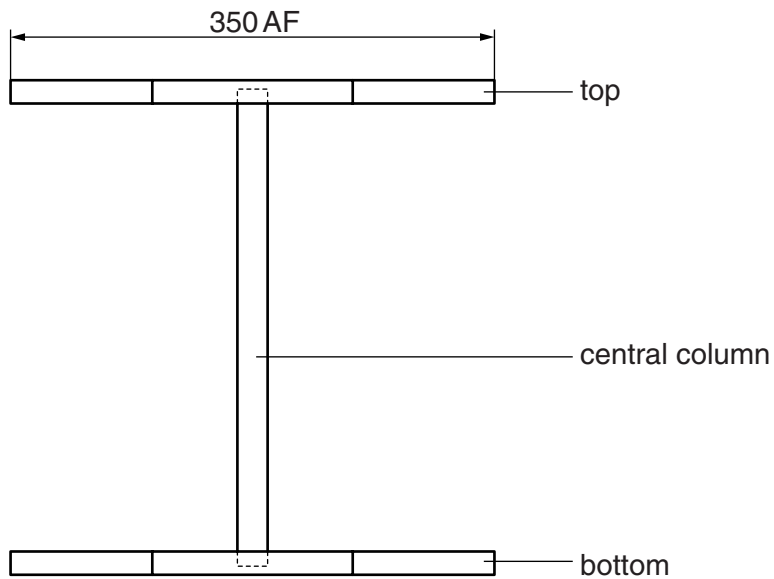

**Fig. 15**
- 13 Fig. 15 shows a DVD stand made mainly from hardwood.
The bottom of the DVD stand can rotate on the base as shown by the arrows in Fig. 15.